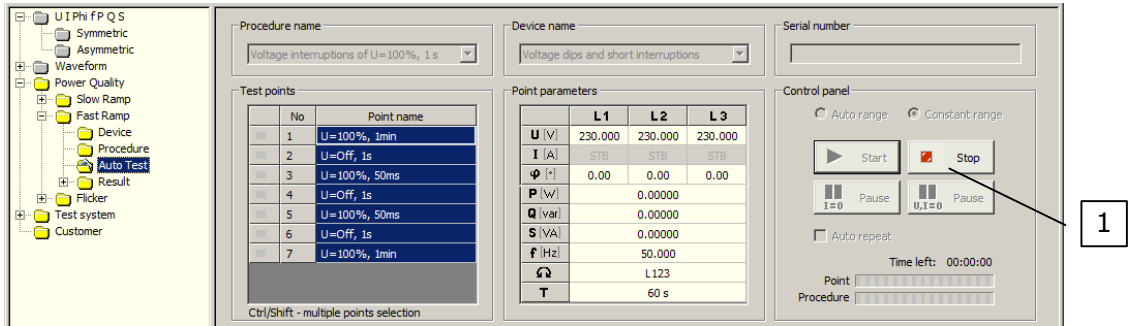

Fig.1.5. Autotest function with procedure in progress
When the procedure is in progress the user can abort a procedure (in any time) by the *Stop* button (pos.1 Fig.1.5).